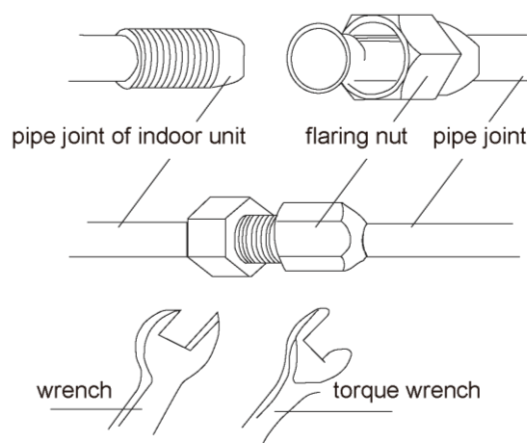

Fig.4.2.1
- (1) Aim the flaring port of copper pipe at the center of screwed joint and then tighten the flaring nut with hand as shown in fig. 4.2.1.
- (2) Tighten the flaring nut with torque wrench.